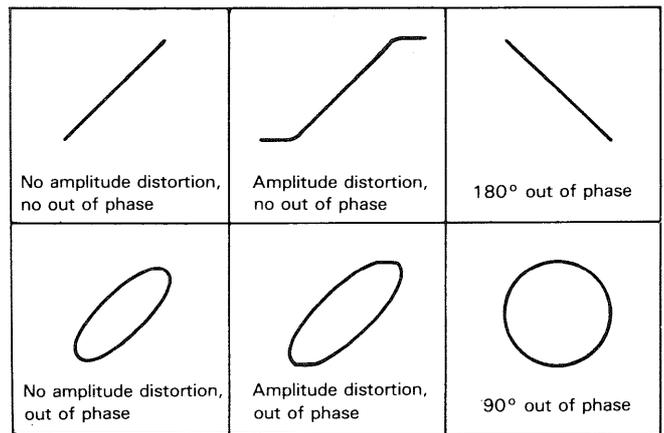

Fig.43 Typical phase measurement oscilloscope display
7. Some typical results are shown in Fig. 43.